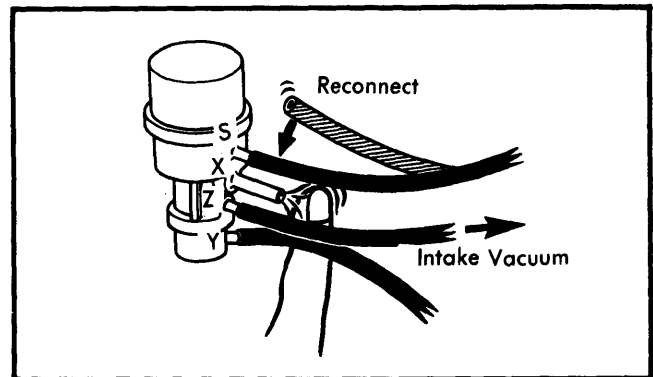

Fig. 2 Testing Vacuum Control Valve
- 4) Remove air suction (AS) valve. Blow air into pipe(s) on each side of valve checking that air flows from air cleaner side to outlet side and does not flow from outlet side to air cleaner side.
- 7) Check vacuum control valve by disconnecting vacuum hose from port "Z". Using another hose, connect port "Z" to intake manifold. Disconnect vacuum hose from port "S" and "X". See Fig. 2.